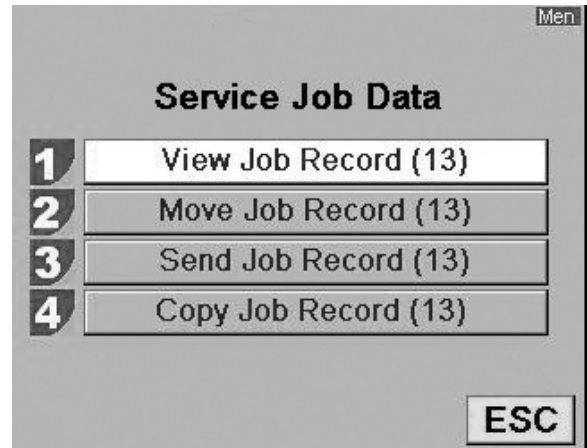

Figure 7
4. Refer to Figure 7. The choices are: